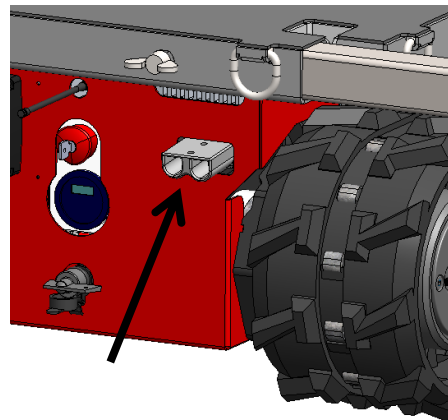

Figure: 17
- The large plug of the converter is plugged into the socket on the Tracked Carrier (figure 17).